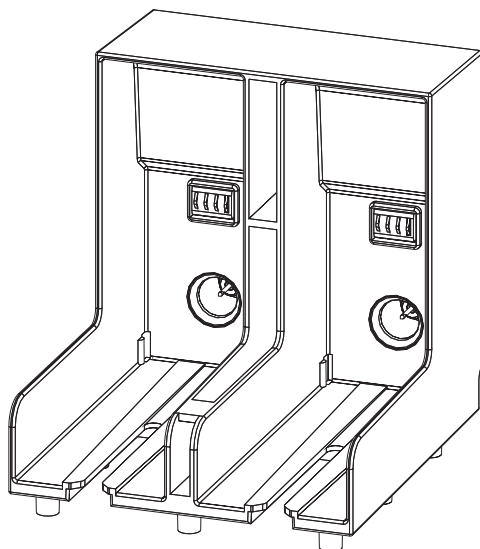

Figure 6-3: Cartridge Holder Slot
- 5 Insert the new ink cartridge into the ink cartridge holder by aligning the cartridge key with the correct holder slot (Figure 6-3 on page 6-4).